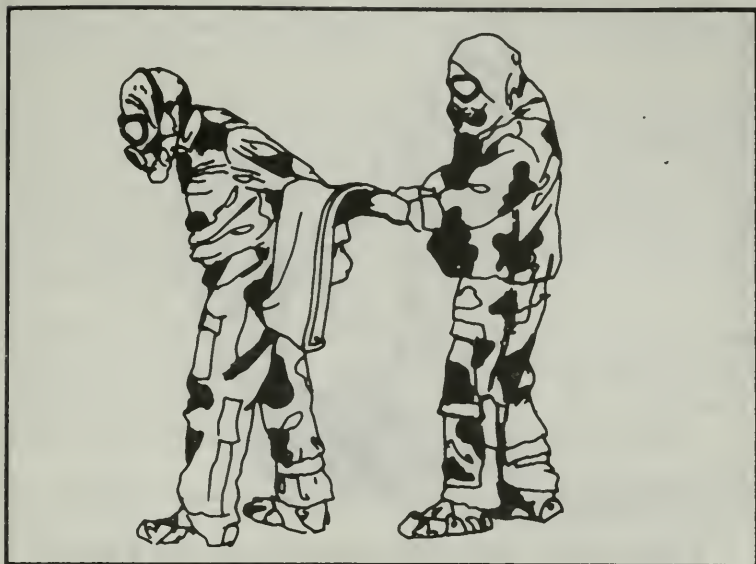

Figure 288. Removing the jacket.
a. **Remove the jacket:** The buddy unties the cord and unfastens the snaps on the front of the soldier's jacket, unzips the jacket, and unsnaps the snaps in the back of jacket from the overgarment trousers. The buddy pulls the soldier's jacket off, one arm at a time, turning the jacket inside out (Figure 288). The soldier should make a fist as each sleeve is pulled off to prevent the gloves from coming off. The buddy places the jacket on the ground, black side up, nearby (Figure 289). The soldier will use it later as an uncontaminated surface to stand on while redressing.